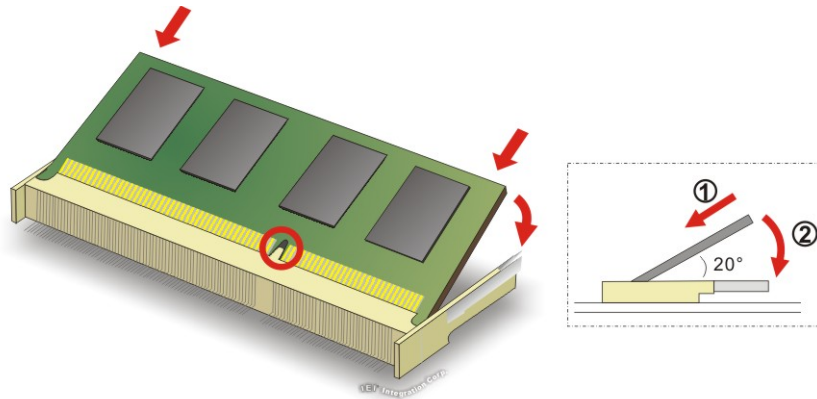

Figure 4-1: SO-DIMM Installation
To install an SO-DIMM, please follow the steps below and refer to **Figure 4-1**.
- Step 3:** Insert the **SO-DIMM**. Push the memory in at a 20° angle. (See **Figure 4-1**)
- Step 4:** Seat the **SO-DIMM**. Gently push downwards and the arms clip into place. (See **Figure 4-1**)